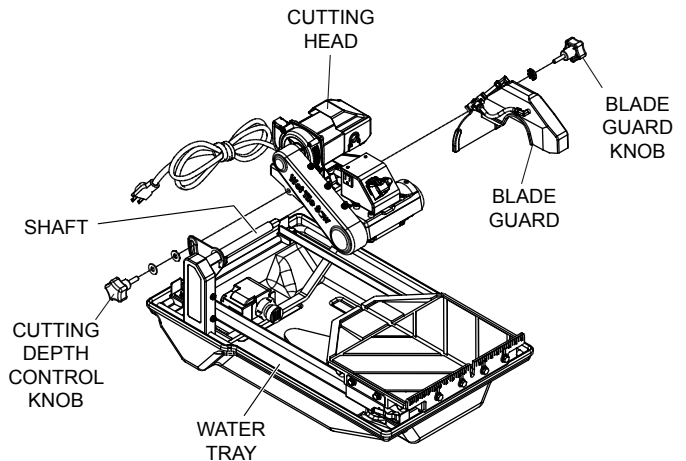

Figure 4. Saw Assembly
4. Slide cutting head onto the post. Secure cutting head to the shaft using provided flat washer, lock washer and nut. Attach cutting depth control knob and washers to the cutting head through the slot located underneath the belt guard. See Figure 4.